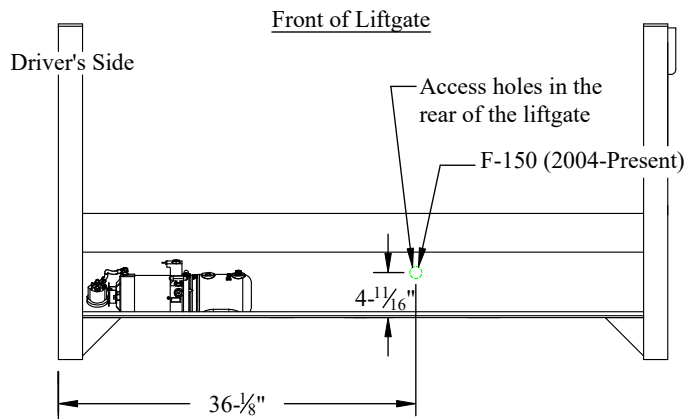

Figure 15: Spare tire access.
2. **Remove and Discard** the black plastic plug(s) from the mainframe in the location shown (Figure 15).